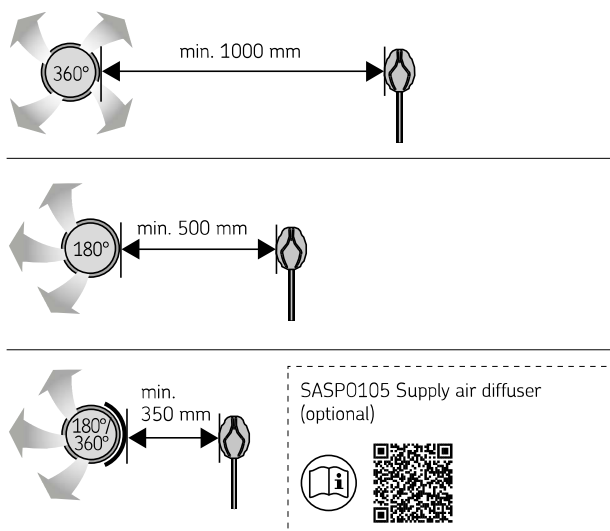

Figure 10. Minimum distance from the supply air vent to the temperature sensor
- **Mechanical ventilation:** The supply air vent must be located in the upper part of the sauna so that it does not interfere with the operation of the temperature sensor. (Figure 10. Minimum distance from the supply air vent to the temperature sensor)